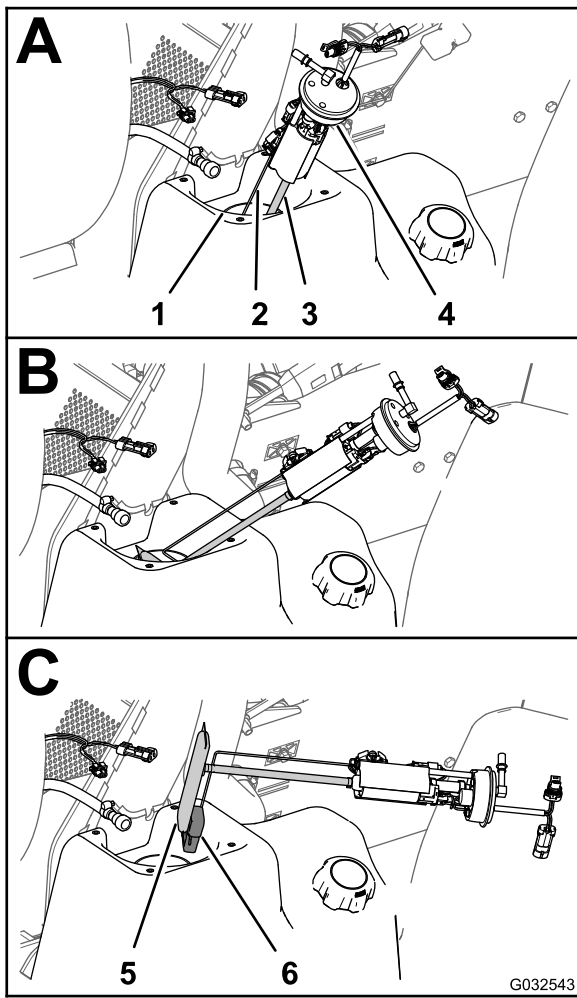
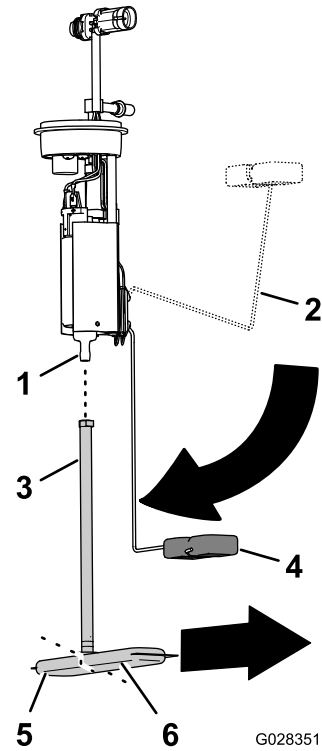

Figure 87
Figure 88
4. Carefully lift and rotate the fuel pump/sending unit out of the neck of the fuel tank (Figure 87).
1. Remove the pickup tube of the fuel filter from the fitting of the fuel pump (Figure 88).
2. Align the pickup tube of the new fuel filter with the fitting of the fuel pump (Figure 88).
3. Align the long leg of the fuel filter with float when the float arm is in the empty position (Figure 88).
4. Insert the fuel-pump fitting into the pickup tube until the fitting is fully seated (Figure 88).
1. Support the float arm and pickup tube together and slip the float and fuel filter into the opening in the fuel tank (Figure 87).
2. Seat the fuel pump/sending unit into the opening in the tank (Figure 87 and Figure 88).
3. Install the seal and nut over the fuel pump/sending and onto the neck of the fuel tank and tighten the nut hand tight (Figure 87).
4. Connect the coupling on the fuel hose to the fitting of the fuel pump (Figure 87).
5. Connect the 2-socket connector of the machine-wiring harness to the 2-pin connector of the fuel pump/sending unit; Connect the 2-pin connector of the machine-wiring harness to the 2-socket connector of the fuel pump/sending unit (Figure 87).